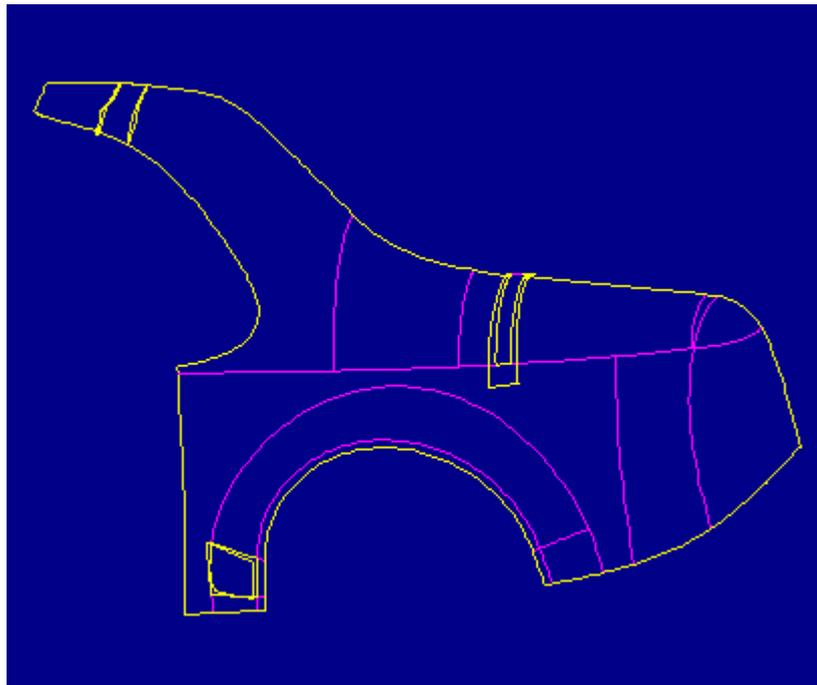

Figure 9
7. In the VIEW menu select **Layer**. Select **New** from the LAYER Pull-Down Menu, Enter a layer name in the NEW LAYER window. Click on the layer just created and click **Add** from the ITEM menu, and use the **Quilt** option to add the excluded surface to a layer that is blanked. Figure 9 shows the current status of the import feature. Notice that there are still three areas that need to be addressed.